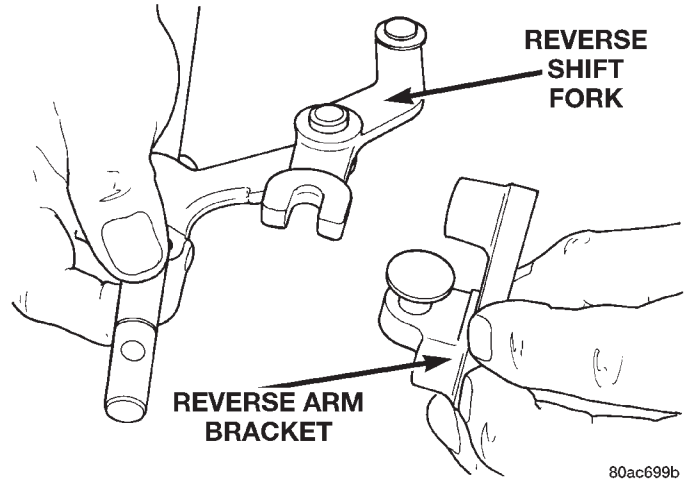

Fig. 80 Install Reverse Arm Bracket to Fork
(8) Assemble the reverse arm bracket to the reverse fork (Fig. 80).